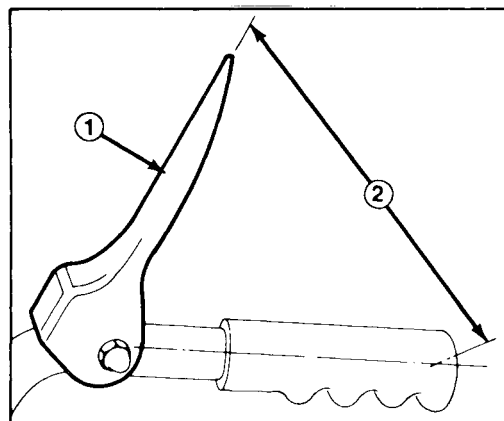

Figure 5
5. Slowly pull machine backward while slowly depressing traction control lever toward handle. Adjustment is correct when wheels stop turning and the distance between the top of the traction control lever and the center of the handle is 4½ inches (11.5 cm) (Fig. 5).